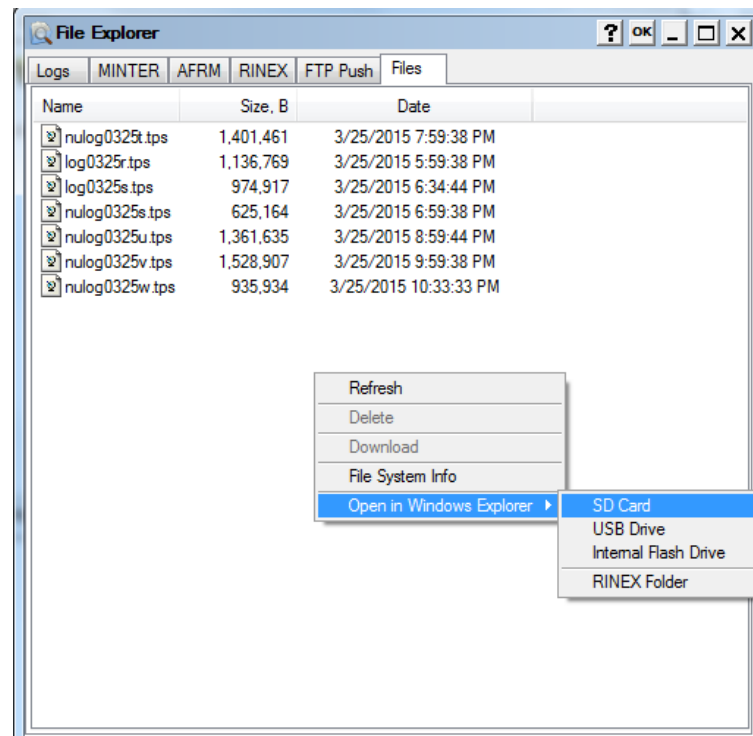

Figure 15: Open the SD Card in Windows Explorer
- Right-click in the **File Explorer** screen, and click **Open in Windows Explorer** ▶ **SD Card** (Figure 15). An instance of Windows Explorer will open.